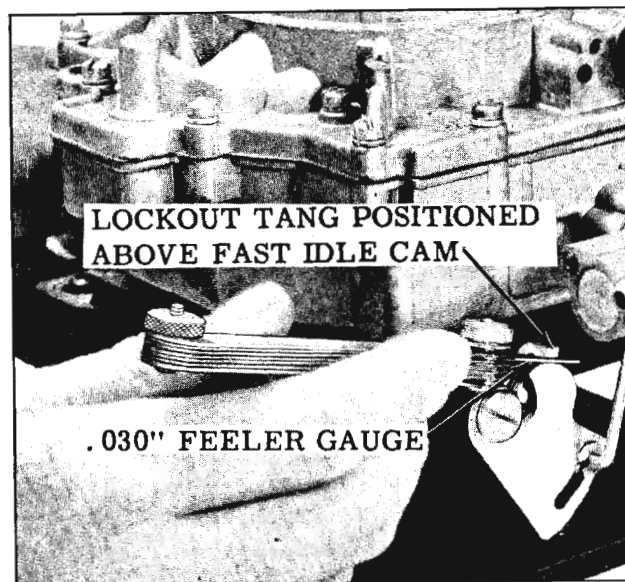

Fig. 9-27 Secondary Throttle Contour Clearance Adjustment
1. Hold the choke valve in the wide open position so that the secondary lock-out tang is positioned over the fast idle cam, then measure the clearance between the tang and the fast idle cam. The clearance should be  $.030'' \pm .010''$ . (Fig. 9-27)